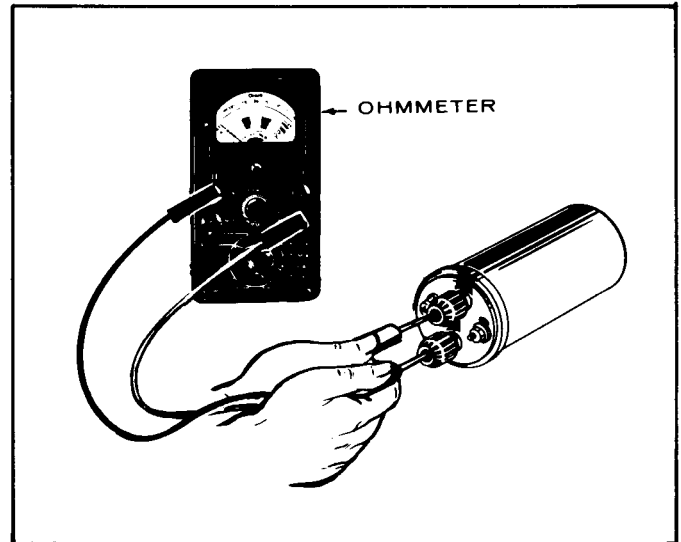

FIGURE 39. COIL TEST
3. Change resistance setting on ohmmeter. Place ohmmeter leads inside of spark plug cable holes (Figure 39). Secondary resistance should read 14,000 (+10%) ohms.